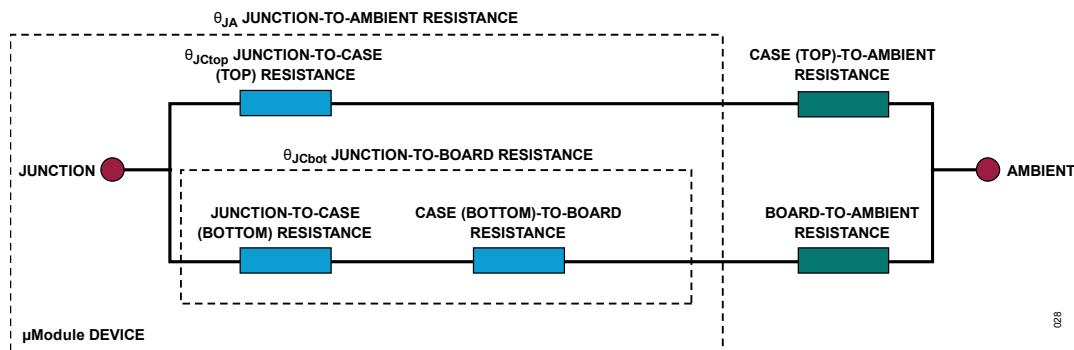

Figure 28. Graphical Representation of the Thermal Resistance between the Device Junction and Ambient, Including JESD5112 Terms
1. θ_{JA} – Thermal resistance from junction to ambient through the bottom of the package case to the board, see Figure 28.
A graphical representation of these thermal resistances is given in *Figure 28*. The blue resistances are contained within the μ Module regulator, and the green are outside.